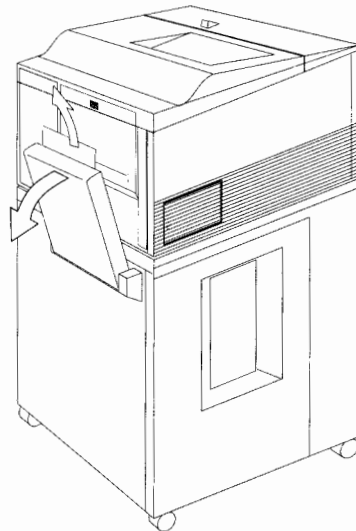

Figure 4-1. Removing Jammed Paper
2. Open the stacker's transport module cover and remove any jammed paper as shown in Figure 4-1.